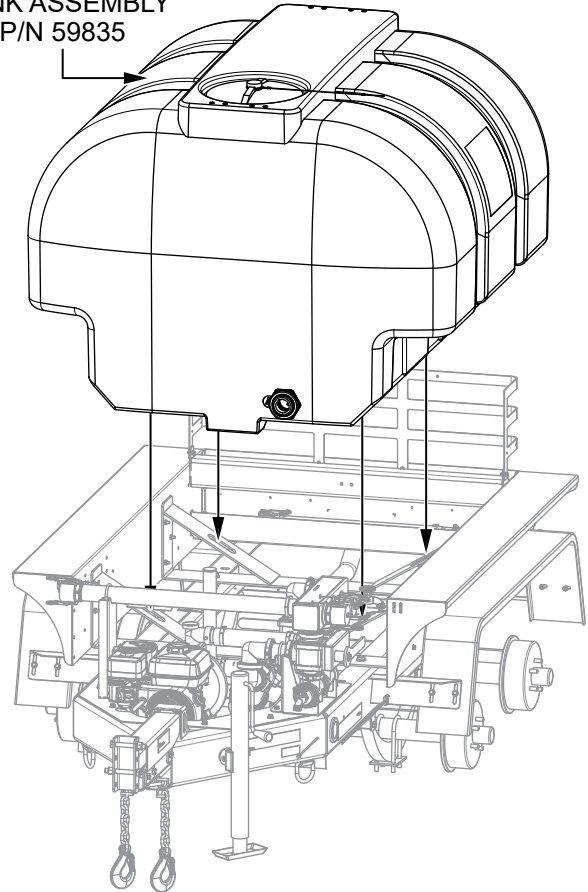

Figure 10. Install New Tank Assembly
1. Place the **new tank assembly (P/N 59835)** onto the trailer with the tank lid towards the front of the trailer. Make sure the tank is seated properly by aligning the angled slots in the tank (Figure 10) with the tank cradle gussets.